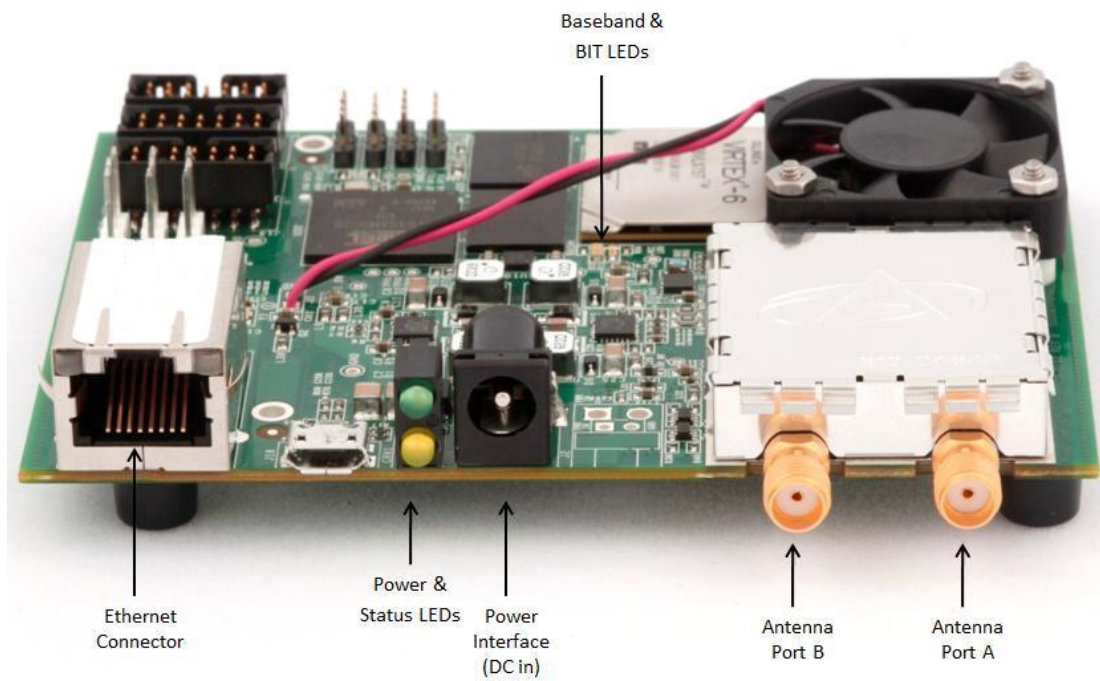

Fig. 2: Side View of the P400 MRM Displaying Connections
3. Connect the power supply to the power interface (**Figure 2**) by firmly pushing the power connector until it snaps into place. To disconnect the power supply from the power interface, secure the board with one hand on the Ethernet socket and shield while pulling the power connector from the power interface with the other hand.